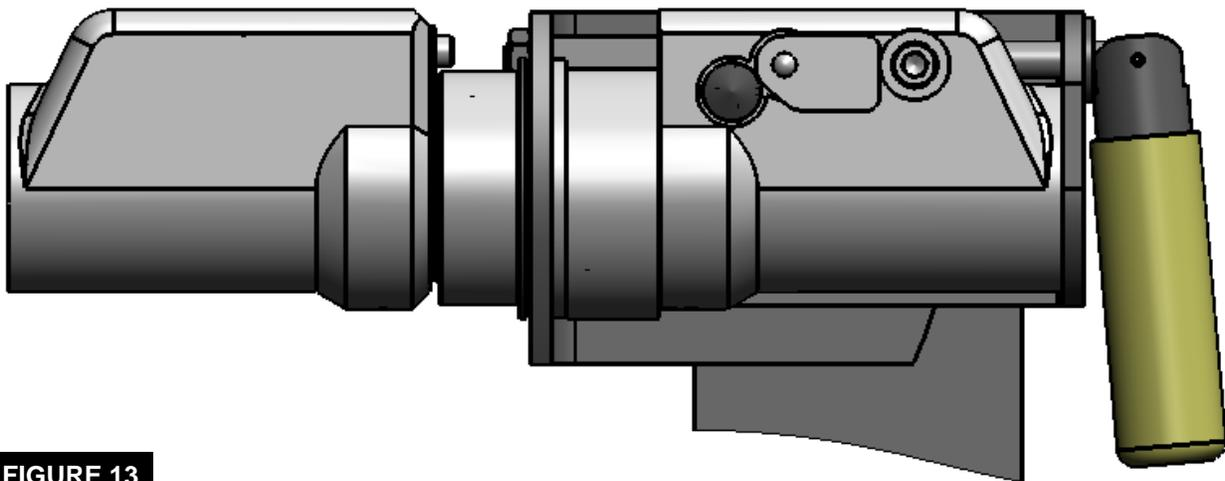

FIGURE 13
6. Screw the handle in until its snug with washer/bracket to engage the handle with the bracket Actuate cam action by pivoting the bracket handle 80-90 degrees, as shown in figure 13, push the Male Plug in, which will allow the Male Plug to move to its operating position and the Latch Balls to engage.